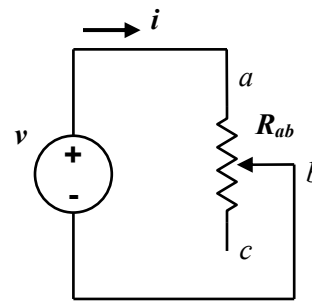
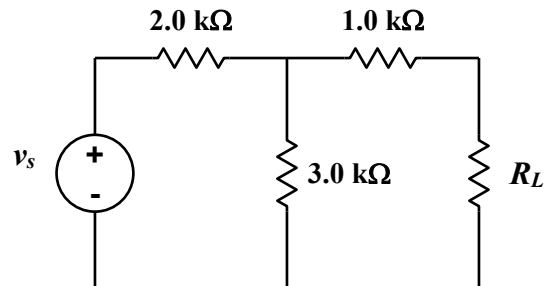
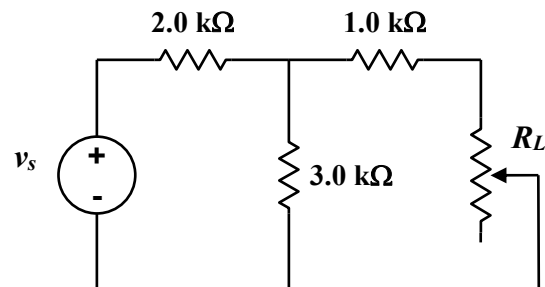

Figure 4.2e
Figure 4.3a
Figure 4.3b
If only terminals *a* and *b* are used (or only *b* and *c*), the pot is a variable resistor, with R_{ab} varying from 0 to R_{ac} (**Figure 4.2e**). By varying R_{ab} , the current through the circuit can be modified.
3. Construct the circuit of **Figure 4.3a**. For the load resistor R_L use the 10 k Ω potentiometer as a variable resistor (**Figure 4.3b**). Only use the center terminal (*wiper*) and one of the outer terminals of the pot (as in **Figure 4.2e**). It might be a good idea to mark the end of the pot next to the outer terminal that you are using, since you might be removing the pot from the proto-board to change its resistance.